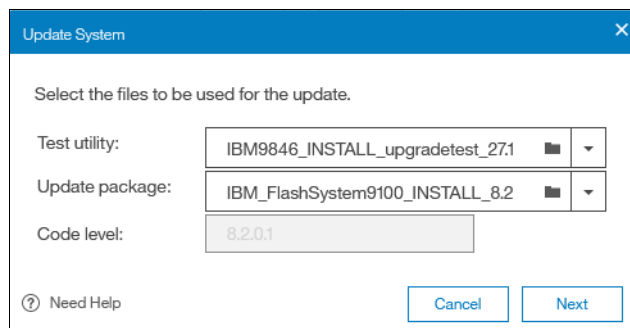

Figure 7-49 Upload option for both Test utility and Update Package
- If you have previously downloaded both files from <https://ibm.biz/BdYeEv>, you can click each folder icon, browse to the location where you saved the files, and upload them to the FS9100. If the files are correct, the GUI detects and updates the target code level as shown in Figure 7-49.